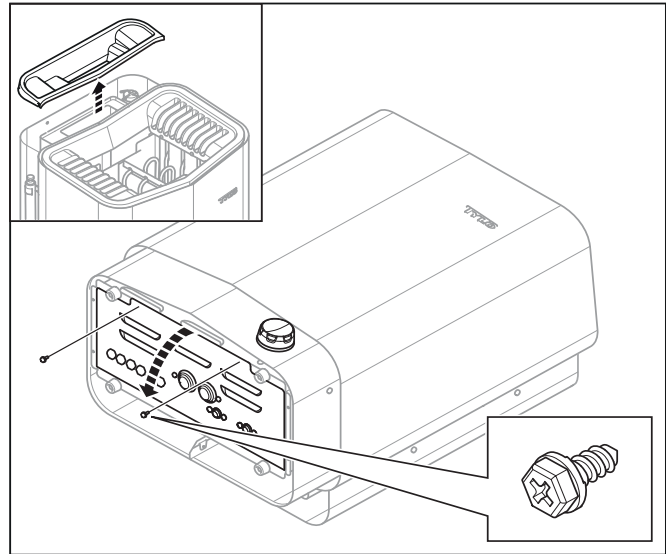

Figure 10: Opening/closing the cover
- 2. Remove the cover to the water reservoir and lay the heater down with the front facing upwards (see Figure 10).
- 3. Undo the screws and open the cover (see Figure 10).
8. Close the cover and tighten the screws (see Figure 10).